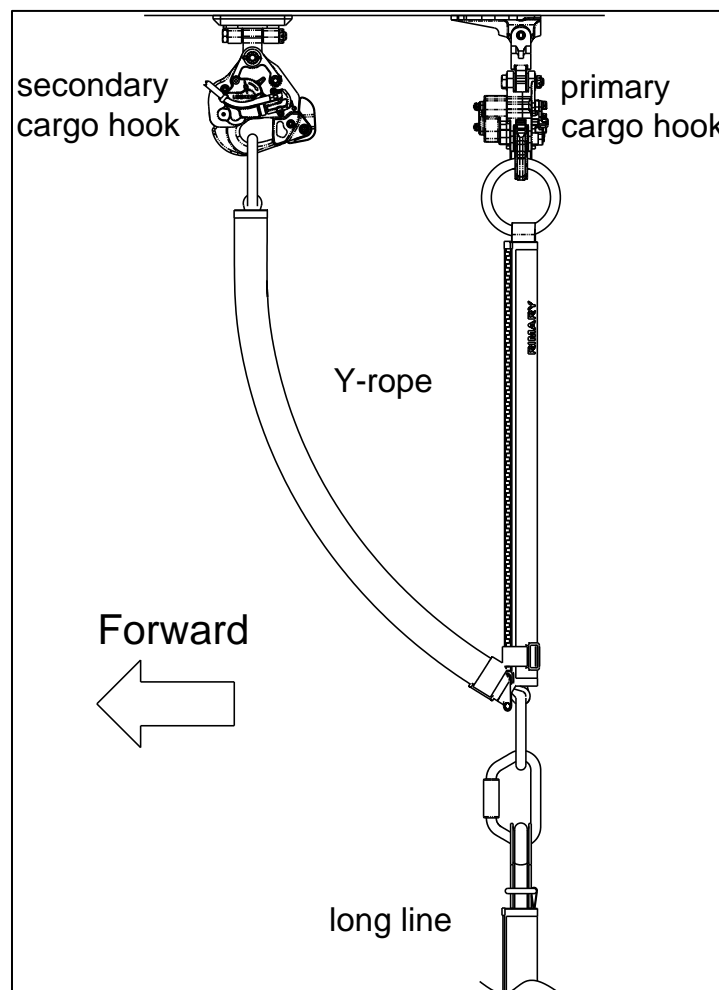

Figure 5.1 Dual Cargo Hook System Overview
1. Dual cargo hooks on the belly of the aircraft (reference Figure 5.1) for attachment, transport and release of external loads. Transport of HEC requires the use of an Onboard Systems Y-rope (P/N 490-019-00) attached to both the primary and secondary cargo hook.